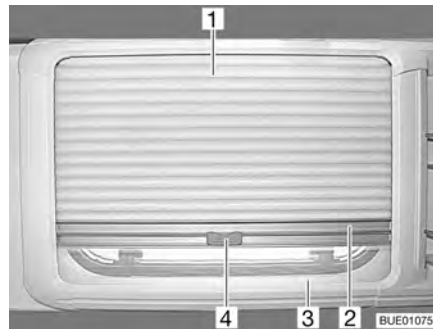

Fig. 59 Hinged window
- Grip the Roman shade (Fig. 59,1) using the holding bar (Fig. 59,2), pull it from the bottom to the top and then release it at the desired height. The Roman shade will stay at this height.
- Pull the insect screen (Fig. 59,3) upwards using the handle (Fig. 59,4) until it pushes against the Roman shade (Fig. 59,1).
- Tilt the handle (Fig. 59,4) attached to the insect screen.